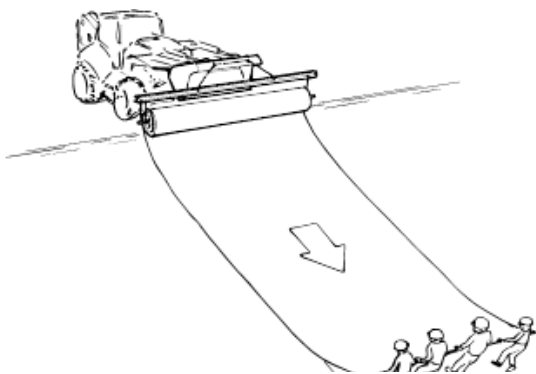

Fig. 7: Unrolling Claymat GCL
3. If sufficient access is available, **Claymat GCL** may be deployed by suspending the roll at the top of the slope, with a group of labourers pulling the material off of the roll, and down the slope (Figure 7).